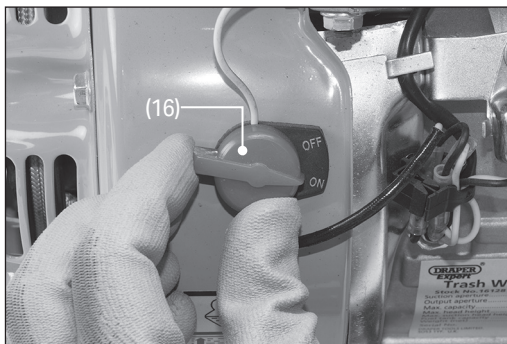

Fig. 12
4. Turn the engine switch (16) to the ON position (Fig. 12).